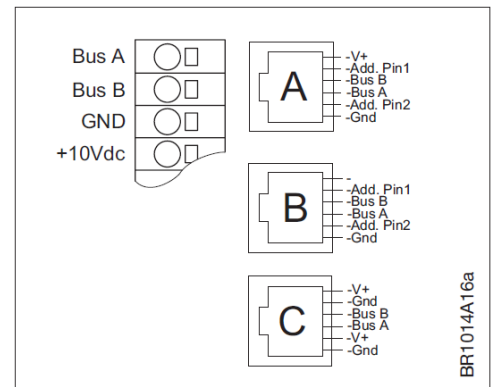

Fig. 3-13: Modbus connection options
- On the terminal strip with spring terminals for control signals (A/D I/O), the terminals for connecting Modbus are marked "Bus A", "Bus B" and "GND" (see fig. 3-13).
- Via the addressing pins of the "A" or "B" connectors (see fig. 3-13 and table 3-3).